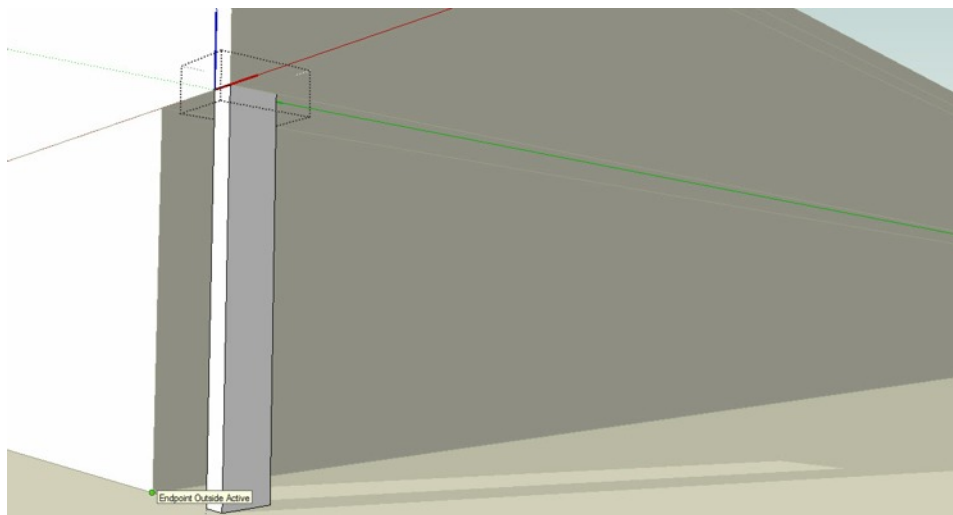

Figure 46. The Column pulled downwards to the same level as the building by inferencing
- **Double click** on the new component and use **Push/Pull** to pull the rectangle downwards to ground level as shown in Figure 46.
TIP As you are pulling the rectangle downwards move the pointer to the corner of the building. A green circle will appear, indicating that the column base is at the same level as the building corner as shown in Figure 46. This is also known as 'inferencing'.